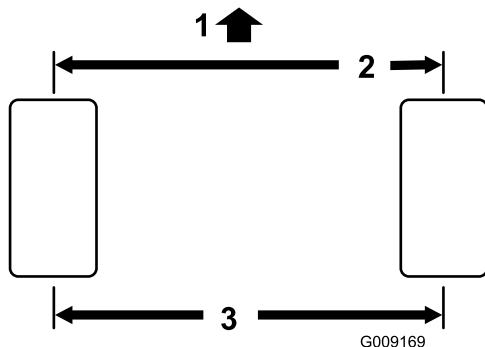

Figure 55
2. Measure the center-to-center distance (at axle height) at the front and rear of the steering tires (Figure 55).